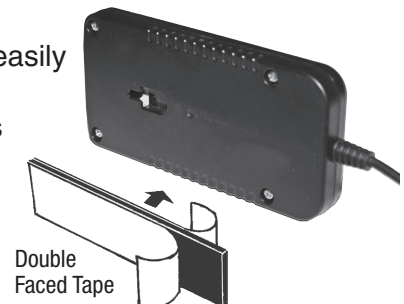

Fig. 7
- 20A. **TAPE METHOD:** Remove the switch controller from the mounting bracket. Make sure the vehicle's mounting surface and the back of the switch controller are clean and free of dust, dirt, oil, wax and etc. Using the double face tape provided, secure to the back of the switch controller and then mount to the selected location. See Fig. 7.